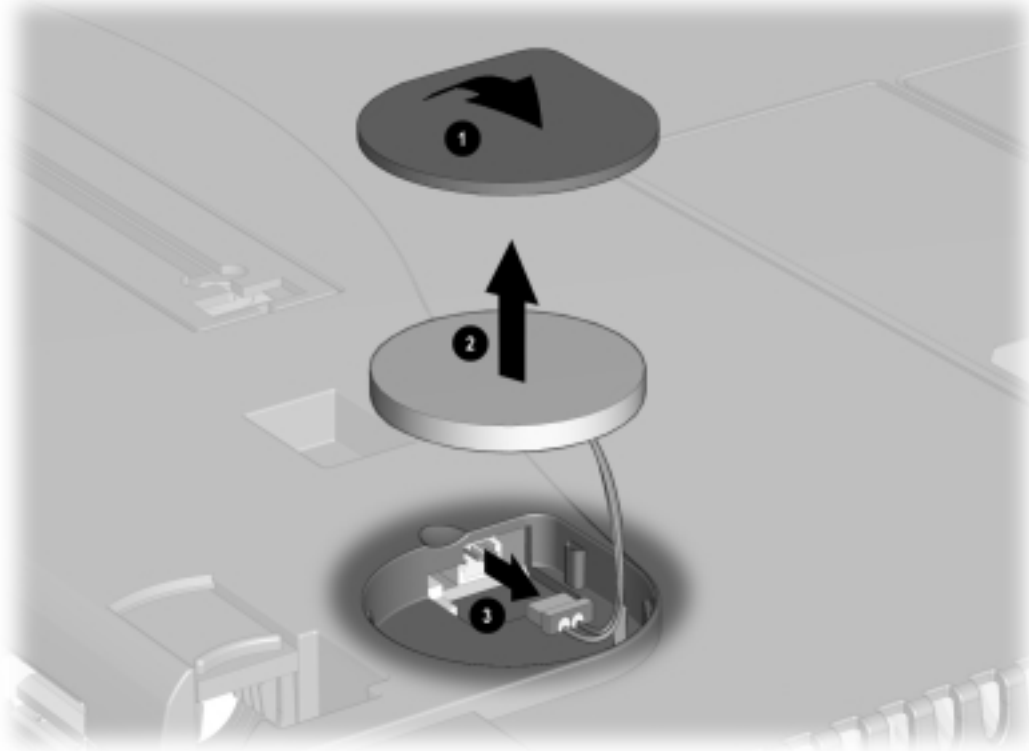

Figure 5-13. *Removing the RTC Battery*
3. Remove the RTC battery cover by lifting it at the indentation **❶** (Figure 5-13).
4. Remove the battery from the base enclosure **❷**.
5. Use the connector removal tool to disconnect the RTC battery cable from the system board **❸**.